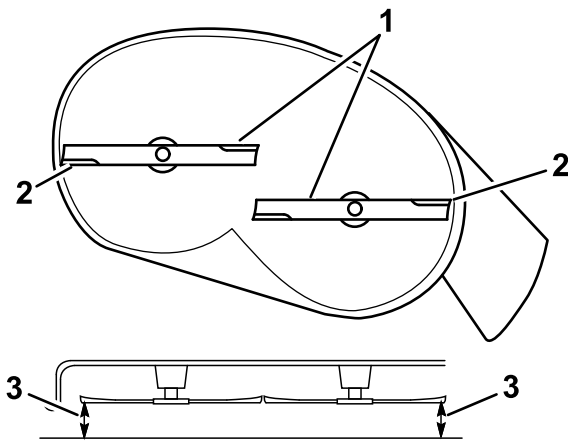

Figure 59
5. Measure between the outside cutting edges and the flat surface (Figure 59).